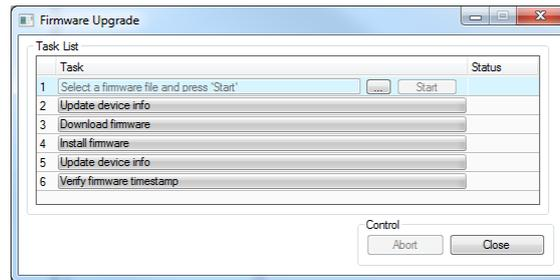

Figure 53: Firmware Update dialog of the Configurator
6. This opens the Firmware Update dialog as shown in Figure 53. Click on the button  and select the firmware image.